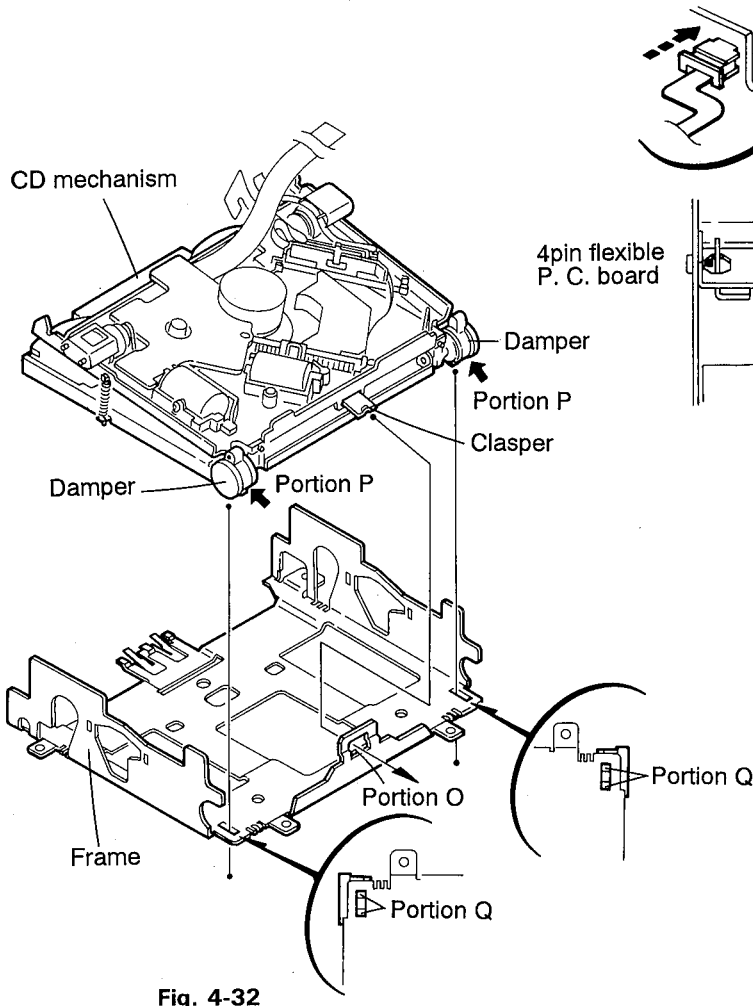

Fig. 4-32
5. After inserting the CD mechanism assembly diagonally to the front side of the frame, assemble the mechanism by inserting the clasper (provided on the rear side) into the hole at the portion of the frame while pressing the clasper (See Fig. 4-32).
**Note 5.** After turning back the frame, make sure that the pawl retaining the damper portion P has been engaged correctly with the hole at the portion Q of the frame as shown in Fig. 4-32.